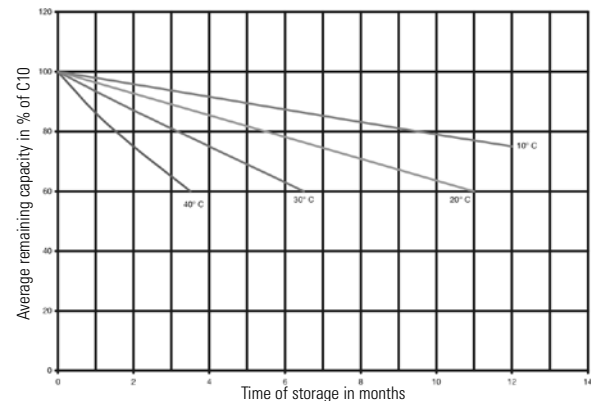

Fig. 1: Sprinter – remaining capacity in % of C10 versus time of storage with different temperatures
- The temperature has an impact on the self- discharge rate (see fig. 1 and 2).